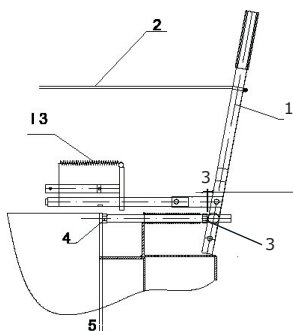

Fig. 7
- Pull the red line (Pos. 2) till the Lever 1 snaps into the AUS position (Fig. 7).
**Changes and self-modifications to the mechanism controlling the brake engagement system (Pos. 1, Fig. 7) are STRICTLY PROHIBITED, as this may prevent concurrent operation of the brake and the clutch. NEVER operate (pull) the brake lever (Pos. 1 in Figure 7) during skidding!**
The brake is engaged by means of a nut (3) and a nut (4). When the brake is engaged the lever (1) shifts into its position EIN (Fig. 7).
Maintenance is mainly required on the engagement/locking mechanism (Pos. 13 - Fig. 7) that needs periodical checkup. Clean all metal surfaces preferably with WD-Spray like agents in order to: